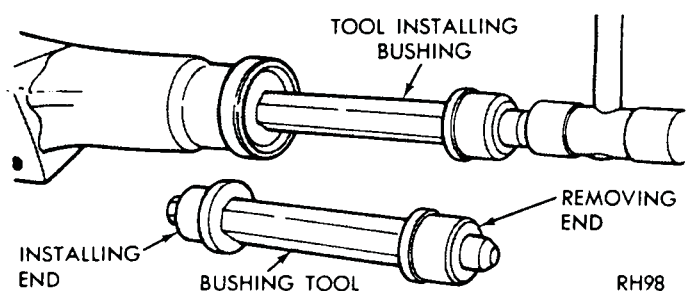

Fig. 9—Replace Extension Housing Bushing
(2) **A-904T and A-999:** Press or drive out bushing with Tool C-3996 (Fig. 9).
(3) **A-904T and A-999:** Slide a new bushing on installing end of Tool C-3996. Align oil hole in bushing with oil slot in the housing, then press or drive bushing into place (Fig. 9).